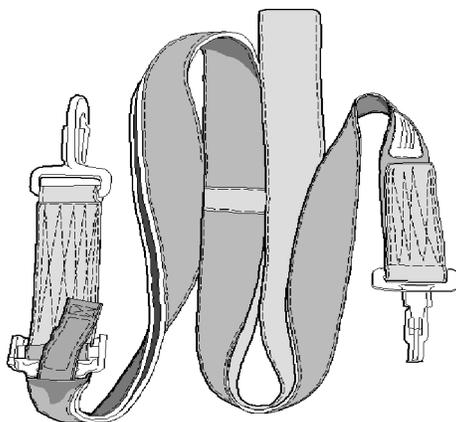

Figure 1. Removal of Quick Ejector Snap
a. Carefully cut tie down strap from snap parachute assembly P/N MS22017 (Figure 1). Remove snap parachute assembly and remove cut stitching.